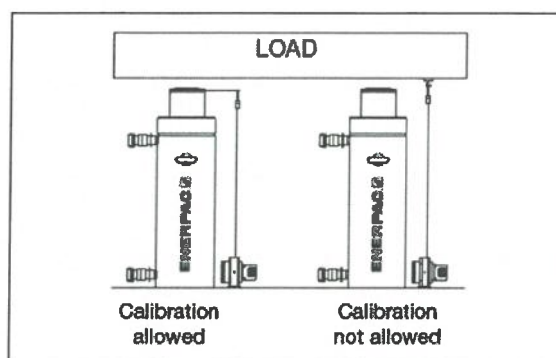

Figure 17: Calibration conditions
2. **Cylinder Calibration Selection:** The user must set if the calibration is going to be carried out or not, depending on how the stroke sensor is placed. Refer to Figure 17 for further detail.